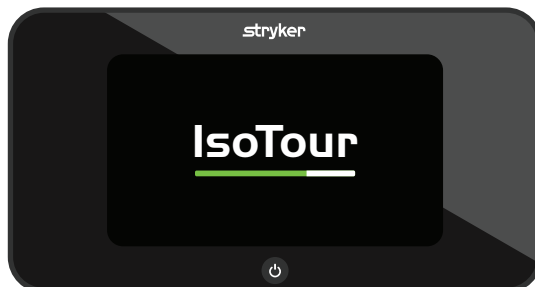

Figure 5 – Startup screen - operator view
2. Press the **Power** button once. The **Startup** screen appears (Figure 5).